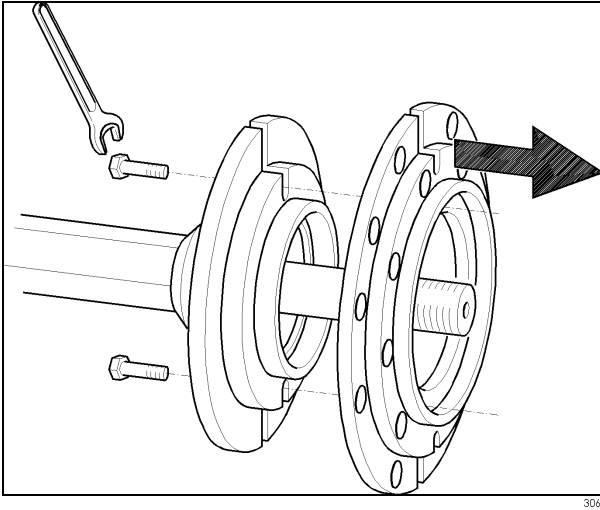

Fig.21
- A.** Remove the 280mm flange from the chuck as shown in Fig.21.